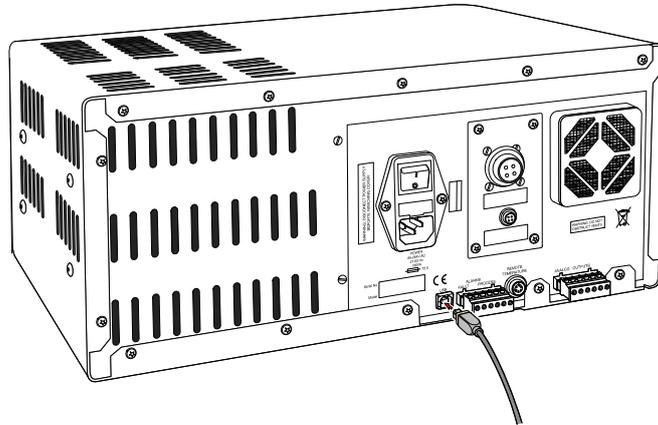

Figure 2.8 *USB Port Connection*
1. Check the orientation of the connector and gently push it into the socket labelled **USB** (see *Figure 2.8*).